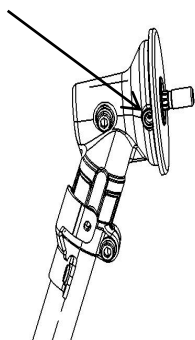

Fig.2
- Rotate the drive shaft until you can see a hole inside the gear case side (Fig2)